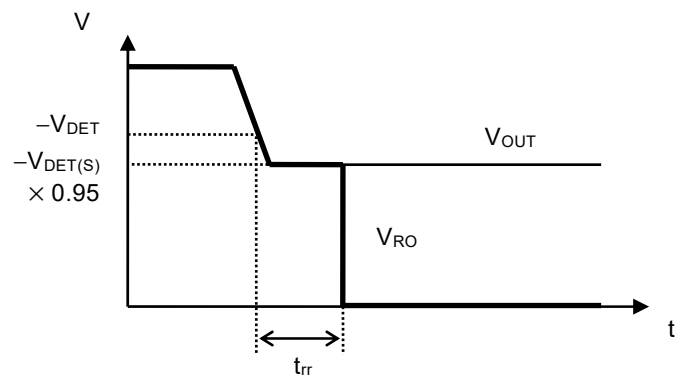

Figure 6 Reset Reaction Time
*4. The time from when V_{OUT} falls below -V_{DET} to when the RO pin output inverts (Refer to **Figure 6**). The time period from when V_{OUT} changes to V_{OUT(S)} → -V_{DET} to when V_{RO} reaches V_{OUT} / 2.